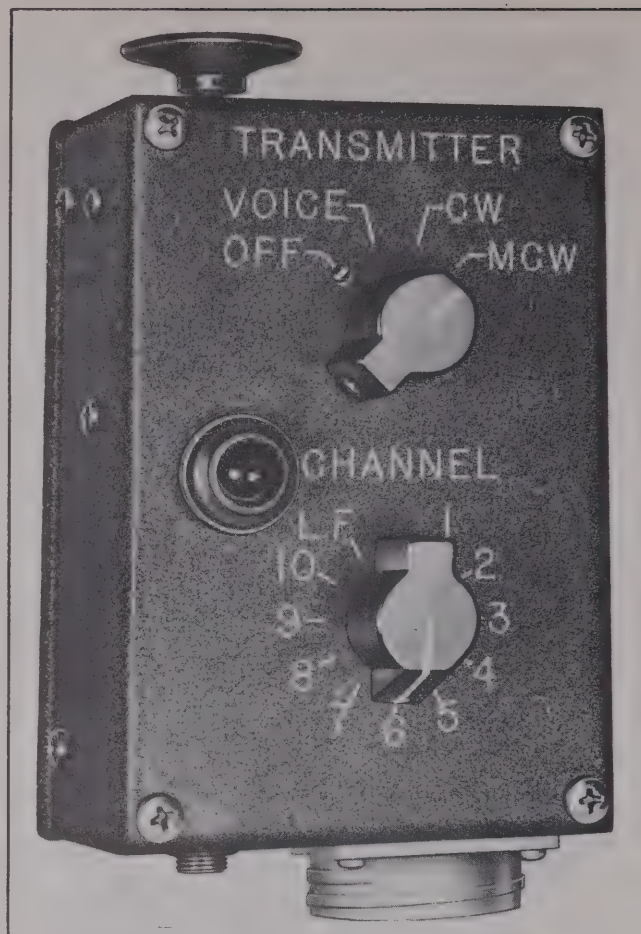

Figure 1-16—Control Unit C-87/ART-13 (Navy Type -23330)
(1) Control Unit C-87/ART-13 (see fig. 1-16) provides a remote control for operation of the transmitter using a variable frequency oscillator unit. By means of the two knobs located on the face of the control unit, the following items may be controlled:
(2) Control Unit C-87/ART-13, modified by the addition of an "A-B" channel switch and used with a transmitter employing the CDA-T Crystal Oscillator permits remote control of functions (a) and (b) as outlined above; and allows selection of any one of 20 frequencies in the range of 2000 to 18,000 kilocycles; and one frequency in the range of 300 to 500 kilocycles.